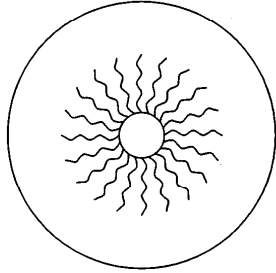

FIGURE 5
- a) Tension too high (figure 5), especially at the outer layers of the roll can cause inner layers to buckle. This is evident by viewing the end of the roll and observing a starring effect. In extreme cases, the core may even be collapsed. This roll characteristic will cause the web to be wrinkled before it enters a converting process.